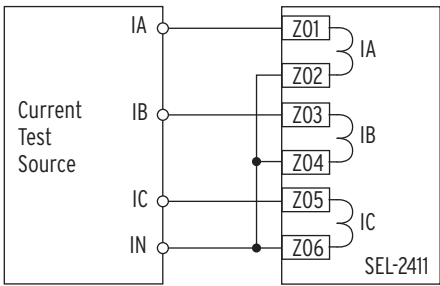

Figure 10.5 Current Source Connections
- Step 1. Connect the current source to the device, as shown in Figure 10.5.
- Step 1. Connect the current source to the device as shown in Figure 10.5.